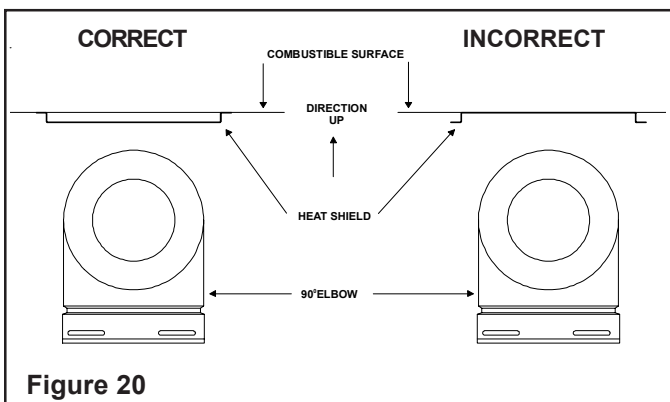

Figure 20
2. Fasten the shield in place using the four pilot holes provided in the part. The shield should be oriented such that the 13 1/8 inch dimension (longest dimension) is running in the same direction the elbow is pointing. The shield should be centered directly above the elbow, and positioned so that it creates a 1/2 inch airspace between the shield and the combustible surface. See Figure 20.